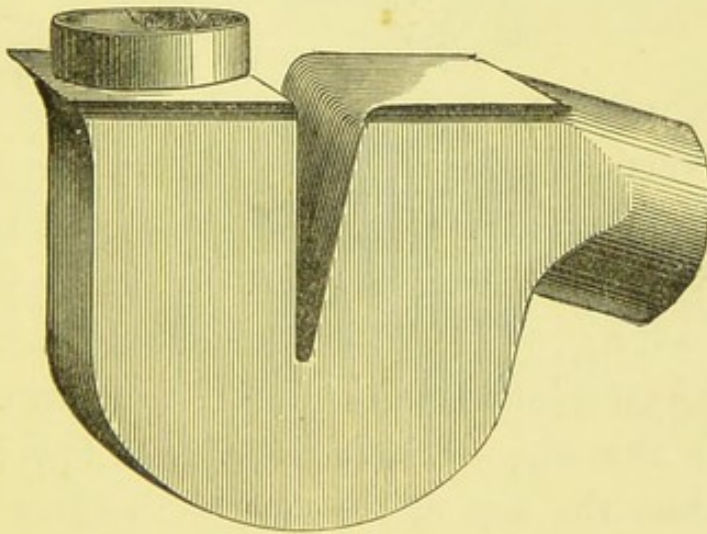
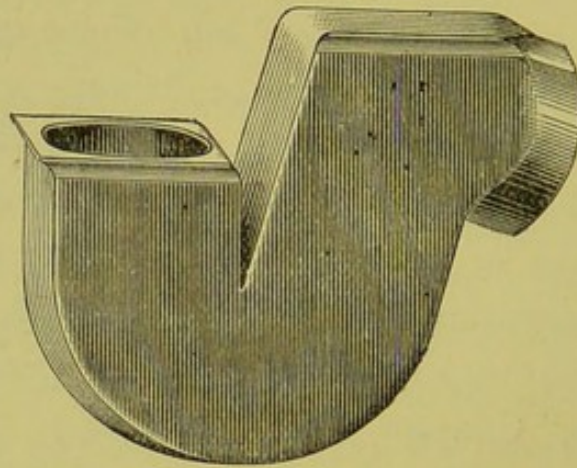
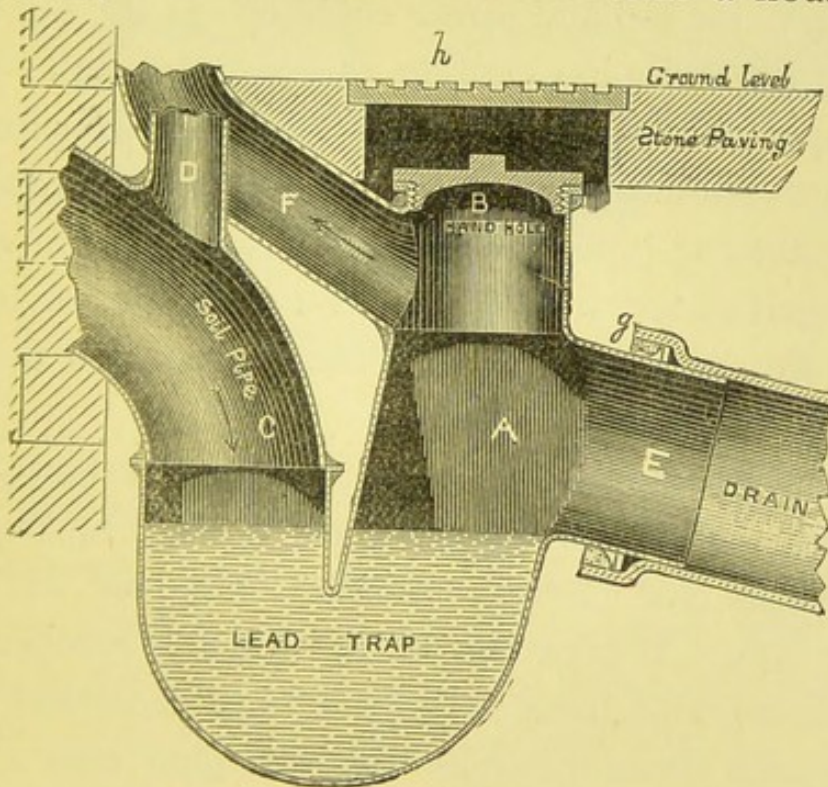
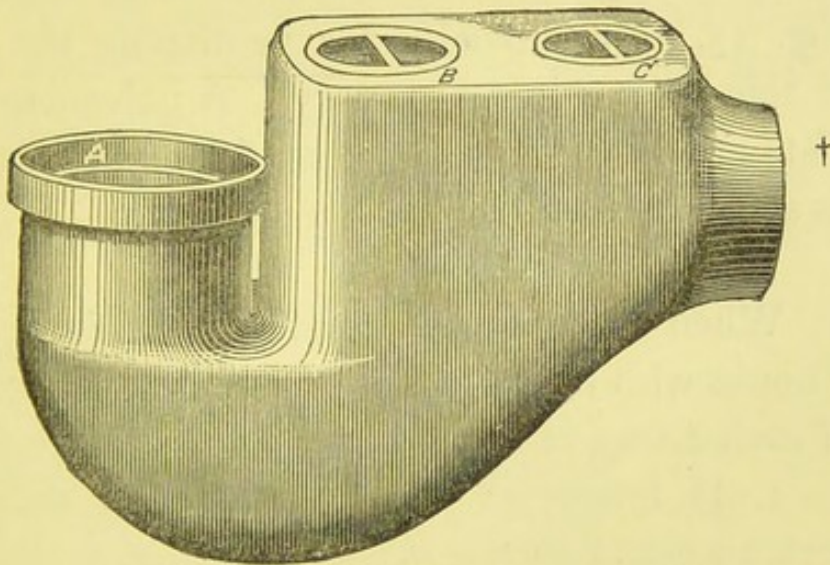

FIG. 12.
FIG. 13.
FIG. 14. SECTION.
FIG. 15.
*Soil-pipe Trap.*—This soil-pipe water-trap, Fig. 12, is similar in principle to the “mansion,” or “V-dip” trap. It is specially constructed for fixing at foot of soil-pipes, and connecting the same with drains. There are two sizes—one for
Figs. 12 and 13 show this trap in lead—Fig. 12 for vertical soil-pipe, and Fig. 13 for “horizontal.” The substance should always be strong, and never less than lead 7 lbs. to the superficial foot, and for good work 8-lb. lead should be used. Any skilled plumber can make this trap. In Fig. 13 the dip, or inlet, is kept a few inches lower than the top of the outgo, to allow for a horizontal soil-pipe to come into it without much increasing the depth of the trap (see Fig. 14, showing this trap fixed). The cheeks and band are of the same width at every part of the trap, except at the outlet, and so arranged as to give a water-dip of 1½ in. The outgo of the trap is rounded to fit the drain-pipe, and also to give a
Fig. 14 shows a section of this lead soil-pipe trap, fixed immediately *outside* the external wall of the house, with all its connections. These soil-pipe traps should never be fixed *inside* a house if
can escape into the open air ; and also, when the screw-cap, B, Fig. 14, is removed for the inspection of the trap, or drain, or for cleaning out same, the drain will be exposed to the external air, instead of inside the house.
A, Fig. 14, shows a section of this trap with its water-dip of  $1\frac{1}{2}$  in. ; B, the hand-hole, with a cap and screw over it—this is a *short* piece of  $4\frac{1}{2}$ -in. lead pipe soldered on the top of the trap, with a brass cap and screw soldered on the top of it ; C, the soil-pipe coming through the wall ; D, air-pipe, or “foot-ventilation” to the soil-pipe ; E, connection of the outgo with the drain-pipe ; F, ventilating-pipe to drain and trap ; G, a moveable galvanised iron cover let into stone paving over the screw-cap to the trap, for access to it without disturbing anything.
The air-pipe, D, Fig. 14, must never be connected with the ventilating-pipe, F, Fig. 14, from the drains (see “Foot-ventilation,” Chapter VIII., page 57). Where the main drain is properly ventilated, and there is only a very short length of branch drain between this soil-pipe trap and the main drain, it is not necessary to have a ventilating-pipe, as shown at F, Fig. 14. But where the branch drain is a long length of piping, then it is important to have this ventilating-pipe, so that every part of the drain shall be properly ventilated.
Fig. 15 shows a pottery-ware trap,\* which the writer specially designed for fixing at the foot of soil-pipes. It is more suitable than lead for this purpose, and being fixed *outside* the house, the jointing is not of the same importance as connec-
tions when inside the house. It is a round-pipe trap with a *water-dip* of  $2\frac{1}{2}$  in. The inlet is kept low down, to receive the soil-pipe when it is brought through the external wall of the house, as shown in the lead soil-pipe trap, Fig. 14. But of course it is equally well adapted for receiving vertical soil-pipes. The soil-pipe can be "tafted" at the end, or a lead flange can be soldered at the foot of the pipe, as shown at *g*, Fig. 14, and fitted
into the socket of the trap at A, Fig. 15. The waste-discharges will then drive everything foreign out of the trap; but when the soil-pipes are *branched* into the dip of the trap, foul matter is splashed all over the inlet part of the trap to make it filthy. B, Fig. 15, is a movable cap for the hand to get into the trap to clean it out, and c, Fig. 15, is a provision for ventilating the drain at this point when necessary. A galvanised iron plate can be fixed over the hand-hole of this trap, as shown to lead trap, *h*, Fig. 14.